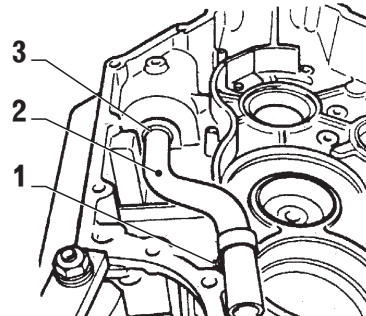

FIG. 6-4
For replacing the seal (item 3, Fig. 6-4):
- Remove plate screws (1)
- Remove suction pipe (2)
- Drive out seal (3) after removing dipstick and filter.